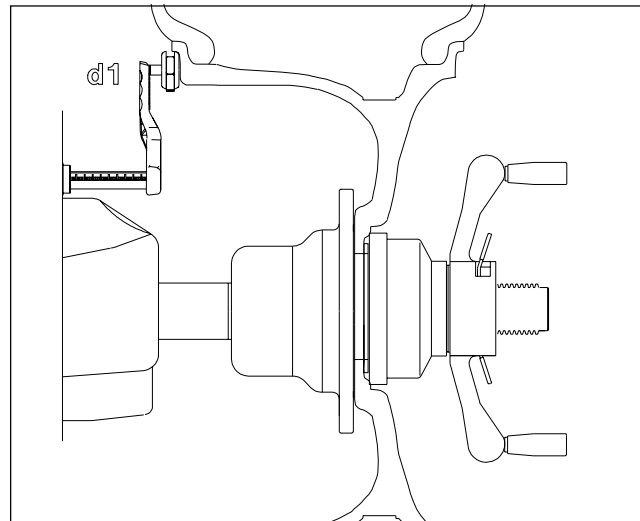

Figure 31
2. Extend the rim offset gauge arm and touch the position of the left weight position. See Figure 31. The display will read "**d - 1**". The high tone will sound when dimension is entered. Return the gauge arm to the rest position, a low pitch tone will indicate when it is OK to proceed. The width arm is not used in this procedure.